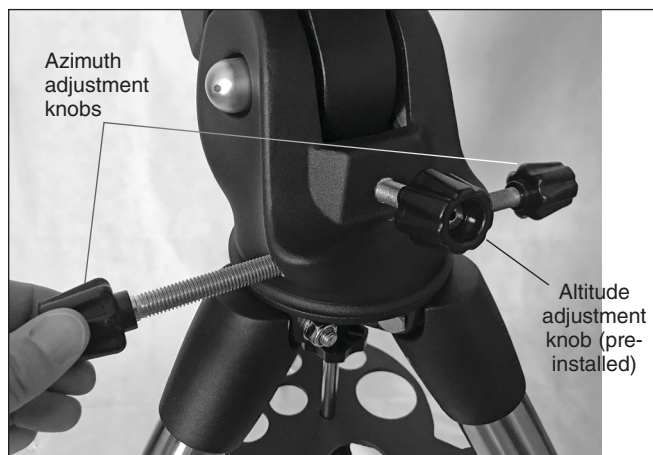

Figure 7. Thread two of the 116mm knobs into the mount as shown; they are the azimuth adjustment knobs.
7. Now install two of the 116mm adjustment knobs at the base of the mount as shown (**Figure 7**). From here forward they will be called the “azimuth adjustment knobs”. Lightly tighten the two azimuth adjustment knobs. Note that when removing the mount from the tripod and then
only if your location is at a latitude less than 18 degrees. In that case it replaces the shorter (101mm) altitude adjustment knob that comes pre-installed. (See Figure 7.)